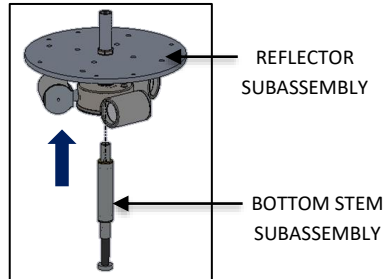
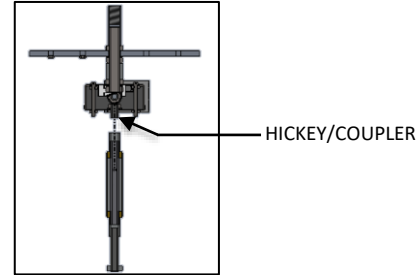

FIG. 11 – BOTTOM STEM INSTALLATION
FIG. 12 – SECTION VIEW SHOWING
2. Attach BOTTOM STEM to REFLECTOR SUBASSEMBLY as shown in FIG.11 at the HICKEY/COUPLER which is preassembled inside of REFLECTOR SUBASSEMBLY as shown in FIG. 12.